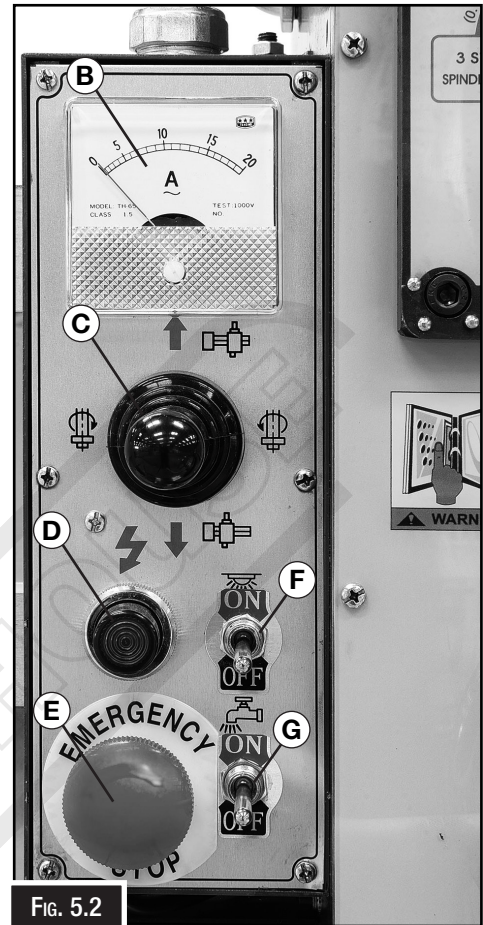

Fig. 5.2
- B Ampere Indicator:** It controls the spindle motor loading, when the motor is overloaded, the overload switch will be tripped. (Fig. 5.2)
- G. Coolant Switch:** Turns the coolant ON or OFF (Fig. 5.2)